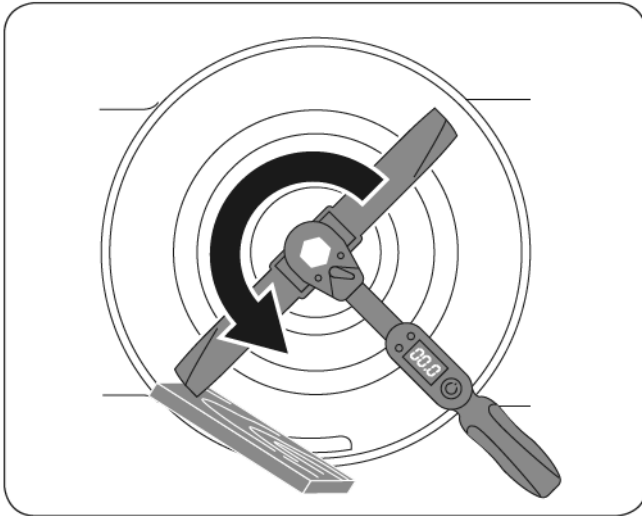

Figure 16
- Tip the machine onto its side with the air filter and carburetor facing up. Use a block of wood to hold the blade steady. (See **Figure 16**)